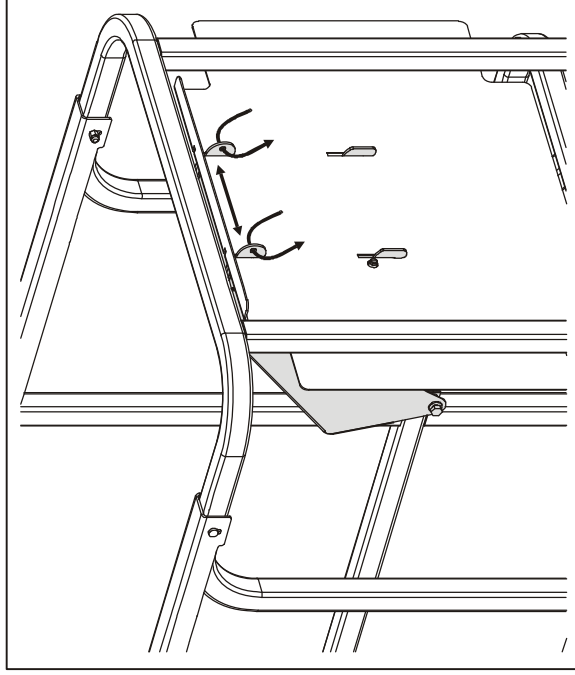

Figure 4-2. Securing Control Station to Platform
6. Turn the power selector switch to "Off" and remove the key to disable the machine and prevent unauthorized use. The platform control station can also be secured to its mounting plate, see Figure 4-2.